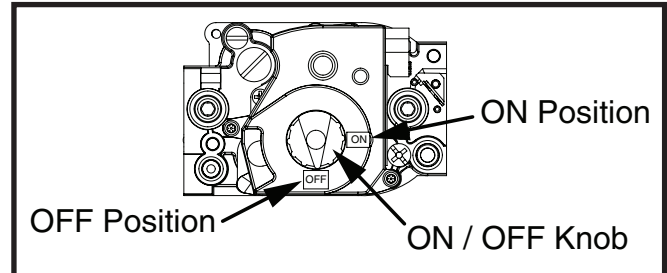

Figure 3. Gas Valve
2. Is the On/OFF switch (inside the blower compartment) turned on? See Figure 3, (page 6).
5. Set the gas valve ON/OFF knob / switch to the OFF position. See Figure 3 or Figure 4 for gas valve type and knob / switch location.